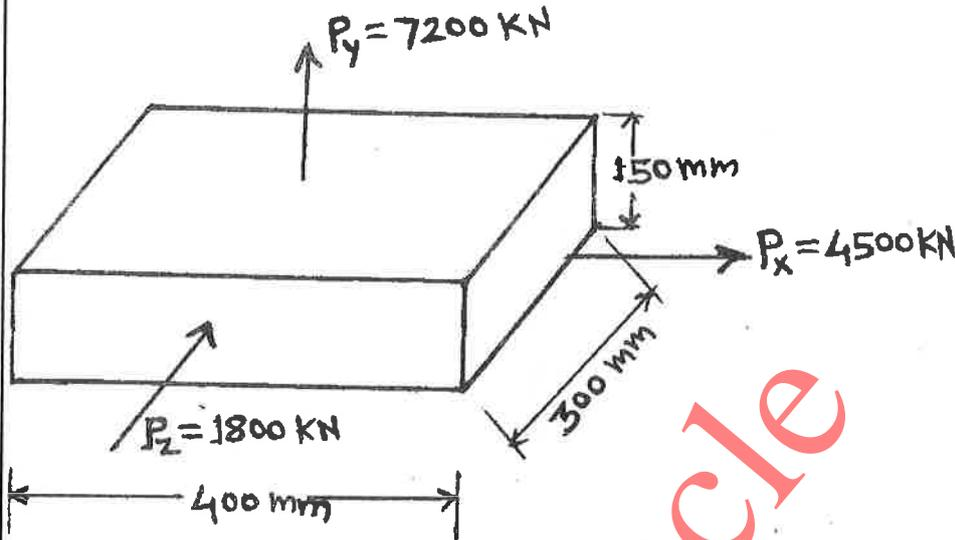

Fig No. 4
- a) A rectangular block loaded is shown in Figure No. 4. Find linear strains in X, Y and Z directions. Also find change in volume of the block. Take $E = 200 \text{ GPa}$ and Poisson's ratio. $\mu = 0.25$